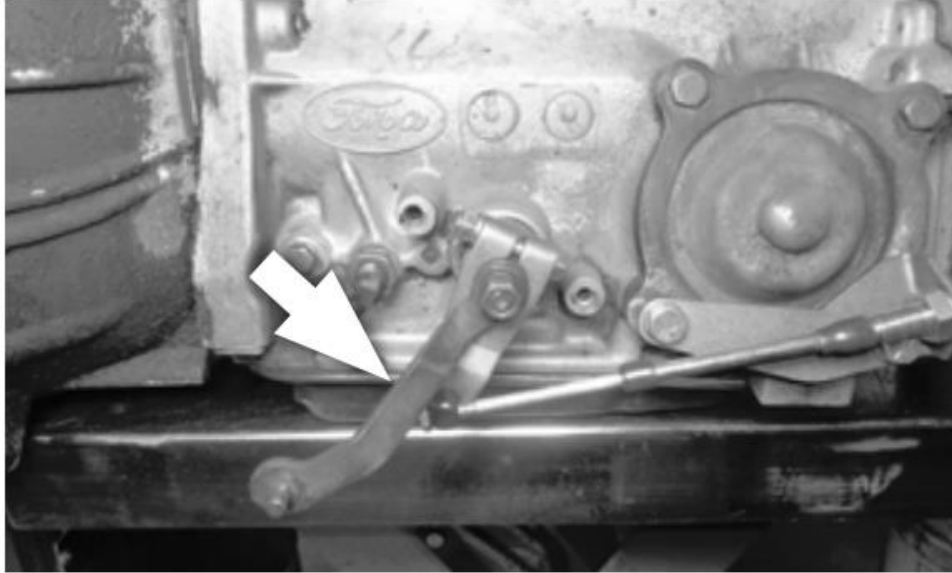

Figure 24
- 39.** Reinstall the throttle lever, lock washer and nut on the throttle shaft and tighten securely (figure 24). The throttle lever should operate smoothly with no binding. This linkage must be connected and operating on all transmissions with automatic valve bodies.